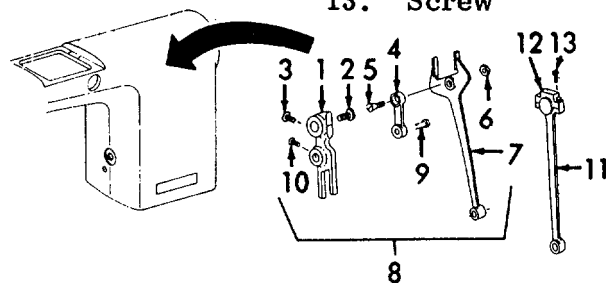

Figure 6-77. Upper Feed Assembly Installation.
- (2) Inspect the side cover for damage.
- (3) Inspect the shaft for damage.
- (4) Inspect the reverse control feed arm for damage.
- (5) Inspect the reverse control feed control shaft for damage.
- (6) Inspect the lever for damage.
- (7) Inspect the connecting rod and cap for damage.
- (8) Inspect the feed fork for damage.
- (9) Inspect the regulator link for damage.
- (10) Inspect the feed regulator for damage.
e. *Installation (Refer to Figures 6-77 through 6-79).*
- (1) Refer to Figure 6-77. Install the feed regulator (1), pin (2), and setscrew (3). The regulator (1) should move freely.
- (2) Install the regulator link (4), screw (5), and nut (6) to the feed fork (7). The link (4) should move freely.
- (3) Install the feed fork assembly (8).
- (4) Install the pin (9) and the setscrew (10). The link (4) should move freely.